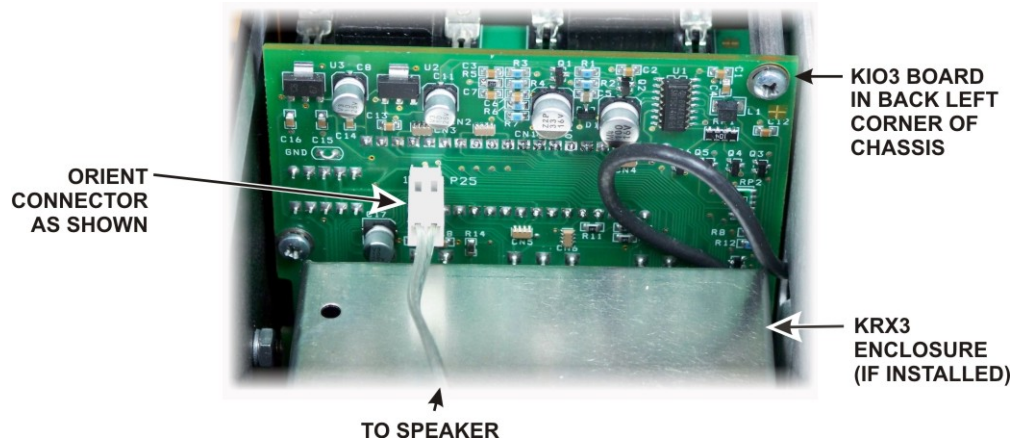

Figure 15. Connecting Speaker Cable.
- Hold the top cover above the K3, route the speaker wire under the stiffener bar and plug it into P25 on the KIO3 board at the left rear of the K3 as shown in Figure 15.